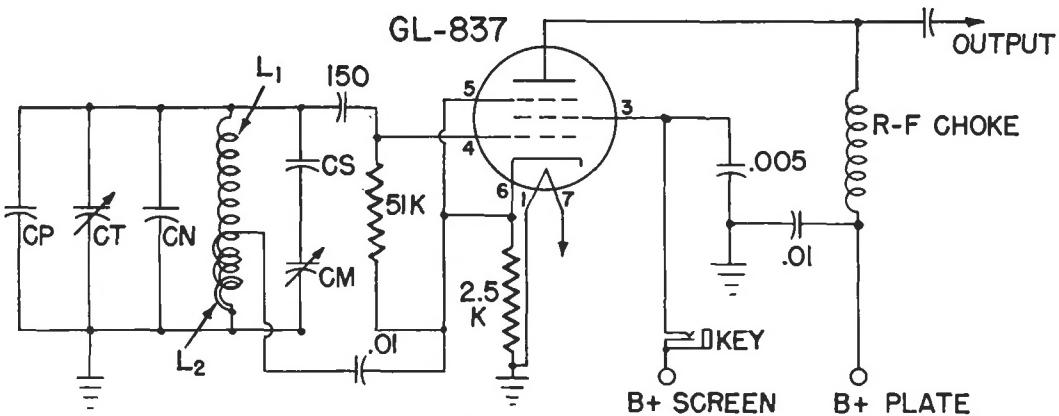

Fig. 2. Circuit Diagram of One-band ECO
Many types of oscillators can be used to generate a radio-frequency signal, and most of these types (ECO, Hartley, tuned-plate grid tickler, tuned-plate tuned grid and negative transconductance) have been used in VFO design. All of them, properly applied, will give a satisfactory VFO. The ECO was chosen because it fits in with more of the requirements which were subsequently found necessary. The schematic diagram, Fig. 2, gives the basic circuit for the electron-coupled oscillator to be used in the Five-band VFO.
Let us assume that you want to calculate the necessary L and C for the circuit in Fig. 2 for a given band—say 1750 to 2000 kilocycles. First, you must select a value of total capacitance (CP + CT + CN + CM + stray). This is not difficult, and as a starter you should use 500–1000 mmf for 160, 80 and 40 meters, and 300–600 mmf for 20 meters. Call it 500 mmf in this case. The next step is to find the capacitance variation necessary to tune across the band. The formula for this is:
It is possible to take the circuit in Fig. 2 and add a tuning condenser and coil in the plate circuit (instead of the r-f choke shown). The coil would be resonant at the frequency generated by the grid circuit. The tuning condenser would allow us to peak the plate circuit, and thus we would be able to drive any other tube desired. This system would work perfectly if our mechanical and electrical design were also perfect. It is much safer not to tune the plate circuit, if frequency stability is desired. In other words, the less we do with the plate circuit, the less the plate circuit is likely to affect the grid circuit.
An untuned plate circuit is shown in Fig. 2. It consists of an r-f choke, which in reality is a broadly resonant coil and condenser combination. The capacitance exists due to the turn-to-turn capacitance in the r-f choke itself. A mica or ceramic condenser couples this stage to the following stage. A plate circuit of this sort has one disadvantage over the tuned circuit, in that less output will be obtained. However, it is undesirable to take a lot of power from an oscillator, so that the untuned plate circuit is ideal in this case.
If temperature compensating condensers are used further adjustment is needed. Referring to Fig. 2, CN and CT are the condensers in question. They are adjusted by listening to the signal on a receiver, and then deliberately adding heat to the oscillator grid circuit. An infra-red heat lamp is ideal for this. If the frequency increases as the temperature rises, add capacity in the negative temperature coefficient condenser (CN) and take out capacity by CT so that the frequency comes back to the same point. Keep this up until the frequency is as constant as possible, due to heat increase or decrease.